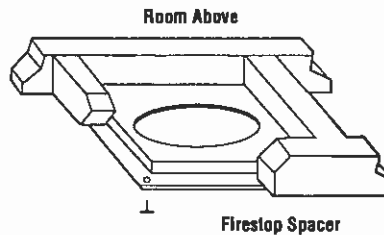

Figure 23
**Step 3.** Position appropriate firestop spacer at ceiling and nail temporarily with two (2) 8d nails. If chimney penetrates ceiling vertically, use flat firestop spacer, Model 8FS-2 for TF8 system and Model 10FS-2 for the TF10 system\*. If chimney penetrates ceiling at 30° angle (offset chimney), use 30° firestop spacer, Model 8FS30-2 for TF8 and Model 10FS30-2 for TF10 system\*. Use one nail on opposite sides to hold firestop spacer in position. Nail permanently, using at least two (2) more 8d nails, after chimney sections have been assembled through the firestop spacer and after any necessary adjustments have been made. Firestop spacer must be secured by at least four (4) 8d nails when completely installed.
**Note:** If there is a room above ceiling level, firestop spacer must be installed on the bottom side of the ceiling. If an attic is above ceiling level, firestop spacer must be installed on top side of ceiling joist (Figures 23 and 24).